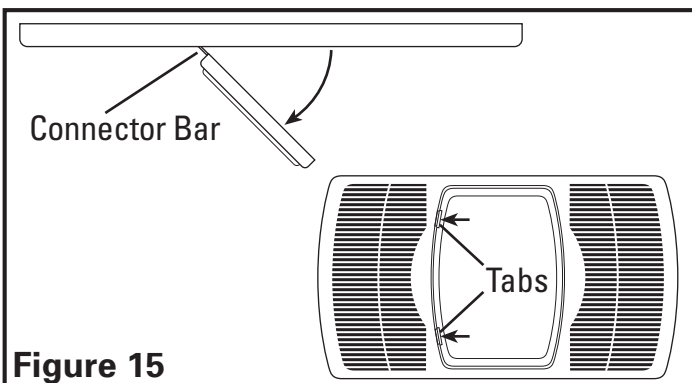

Figure 15
- Close the light lens and secure in place by swinging back into position and snapping the tabs in place (**Figure 15**).